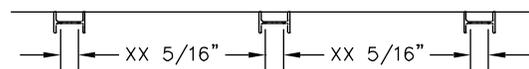

FIG. 4
3. If more than one hang-on component is being hung on the wall track (side by side, not up and down) the wall track should be spaced so the adjacent hang-on components share one wall track. (Figure 4).